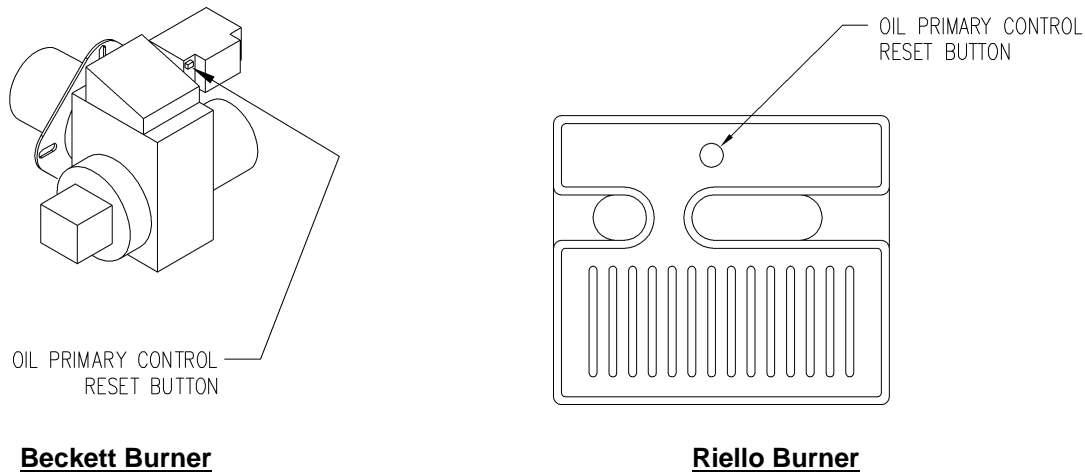

Figure 28: Location of oil primary control reset button
3. Check to see if the LED on the burner primary (ignition) control module is flashing at a rapid rate. If so, the control may have "locked out". To recycle the control system, depress the reset button. Refer to Figure 28.